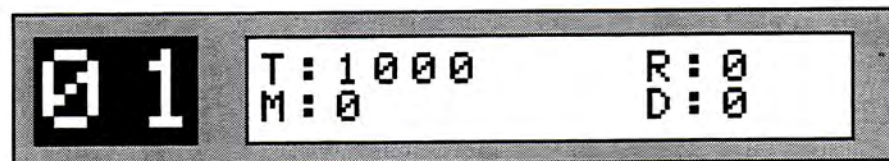

Figure 12 - First Test Status Screen
15. If download errors are shown for either ESP chip, that may or may not indicate a faulty ESP chip. When an ESP chip fails to download, the processor invisibly and automatically tries again, and if it is successful a subsequent time, there may not be a problem with the ESP chip. If the number of download failures coincides closely with the number of test cycles (see figure 12), replace the mainboard. If the DP/2 is displaying chronic or persistent software messages (see page 7), and there are numerous download errors, replace the mainboard.